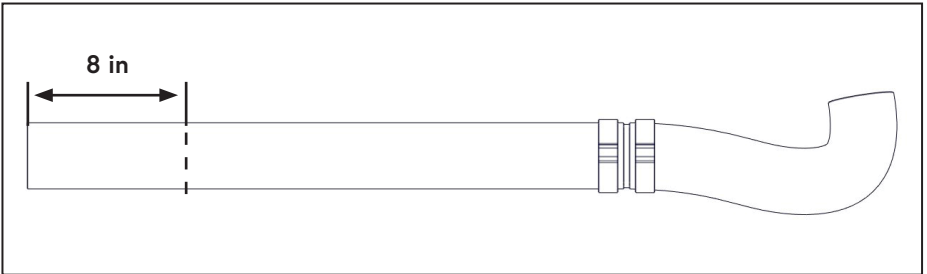

Figure 61 — Modify air intake hose
- Cut 8 in from the straight end of the intake hose assembly (Figure 61).